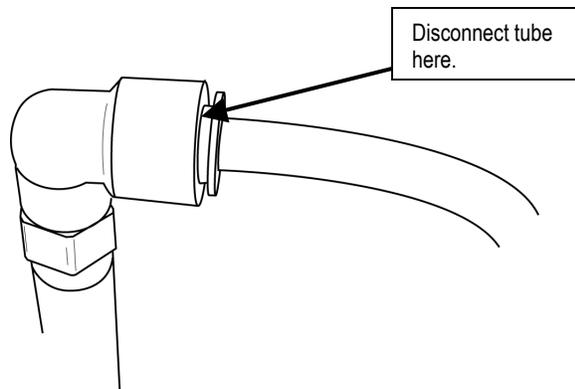

Figure 7.26 Port C2 connection
4. Press 0 psig with nothing connected to the ventilator. Disconnect the input of the accumulator at port C2 where connects to the blender manifold. See figure 7.26.
5. Use adapter (see figure 7.26) to attach calibration tubing assembly #1 to the accumulator input tubing. Attach also to a calibrated 0-150psi regulator connected to the high pressure gas source & to a manometer.